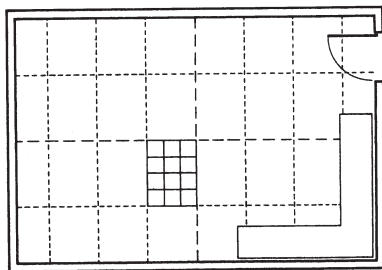

Fig. 9 - Lay out smaller sections for grouted floors.
- When installing grouted floors, divide the floor into smaller sections to help maintain consistent grout line widths and keep the joints running straight (Fig. 9). Each section should be the precise dimension of 2 or 3 whole tiles wide, including the grout line width. Lay out the smaller sections by starting at the center lines and measuring out toward the walls. It is not necessary to divide the room into smaller sections when installing ungrouted floors.